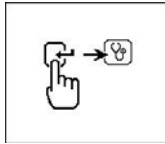

Fig.64
- Once the Black clip is clamped onto the battery [-] terminal, the Analyser display will light up as shown. (Fig. 64)